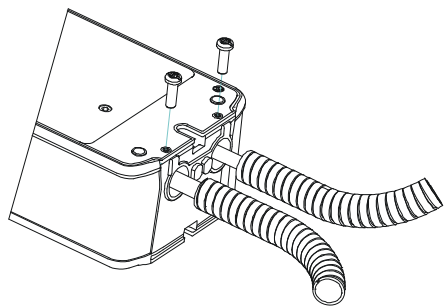

Figure 21: Adding Flexible Metal Conduit
- 2. Push the conduit into the holes in the actuator and secure it with the supplied 10-32 x 9/16 in. screws, as illustrated in Figure 21. The product label marks the position of holes for the screws. Drive the screws through the product label in the marked positions. Drive the screwhead flush with the plate to secure the conduit.